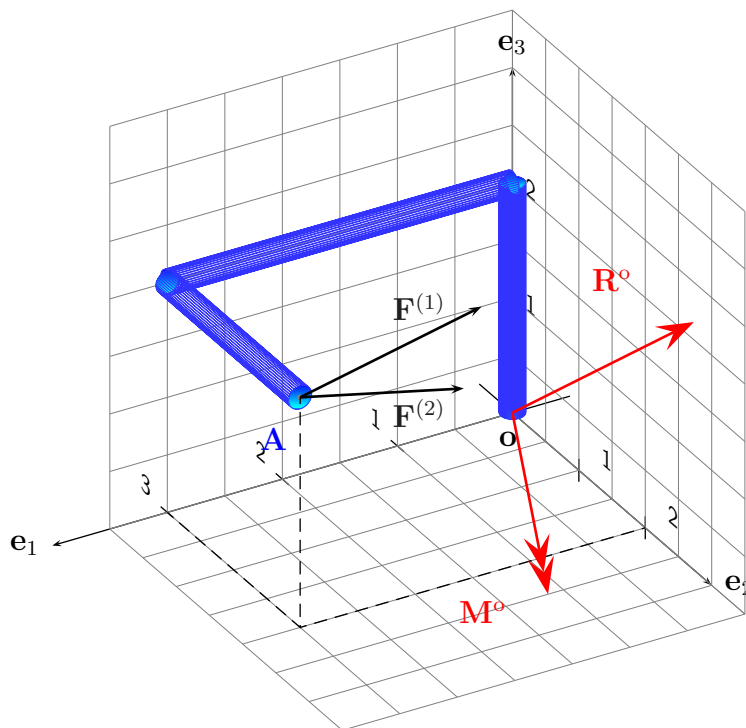

Figure 6: Pipe assembly: Free body diagram
**Solution:** Following the free body diagram in Figure 6: